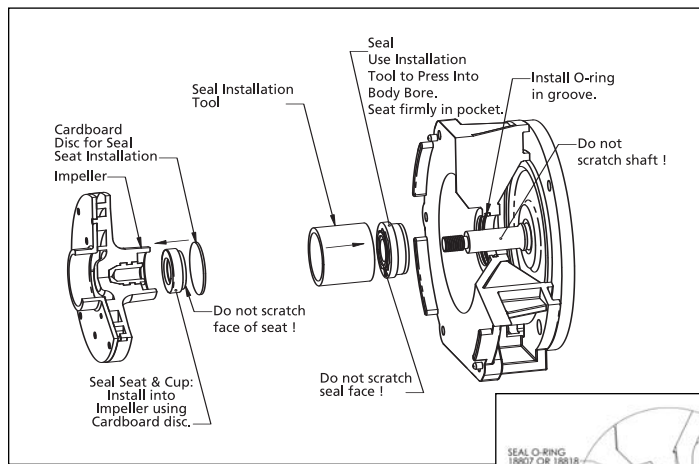

Figure 5 - Seal install
4. The ceramic seat is located on the back side of the impeller (part of Ref. No. 5). Pry the seat out by using a screwdriver in the inside hole (See figure 5). Be careful not to damage or scratch the inside surfaces of the bore holding the seat. Such scratches can cause leaks. Replace the impeller if such damage occurs.
6. Use a wooden dowel to push out the mechanical seal (part of Ref. No. 5) from the body adapter (Ref. No. 1) (See figure 5). Do not dig the seal out from the front.
3. Wet the rubber portion of the new seal seat (part of Ref. No. 5) with a light coating of soapy water. While wearing clean gloves or using a clean light rag, press seal seat squarely into impeller recess. Use the cardboard washer (usually supplied with new seal) to place over the polished ceramic surface and use a piece of pipe or dowel rod to press in firmly but gently (See figure 5). Avoid scratching the ceramic face, usually white.
6. While preventing the shaft from turning, screw impeller (Ref. No. 4) onto shaft and tighten (See figure 5).